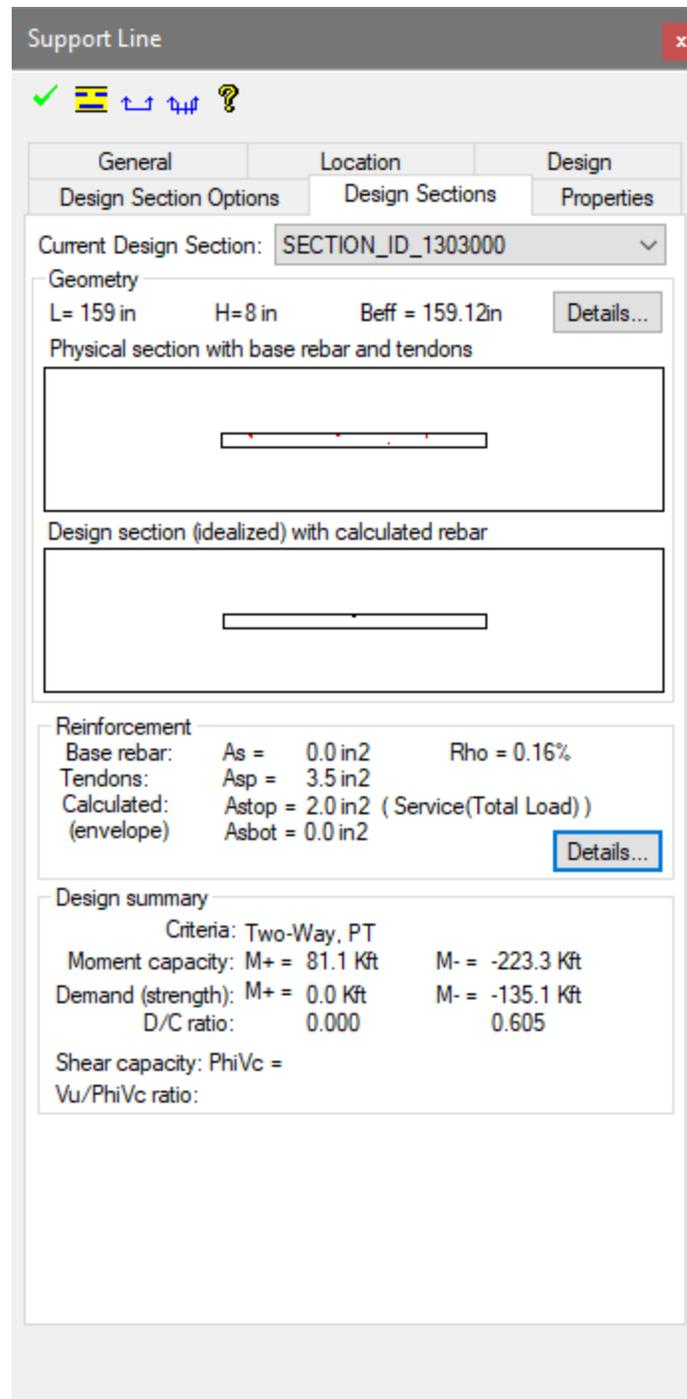

Figure 8-81
- With your mouse double click along the design section just to the north of this column in plan to open the *Support Line properties* window to the *Design Section* tab as shown in **FIGURE 8-81**.